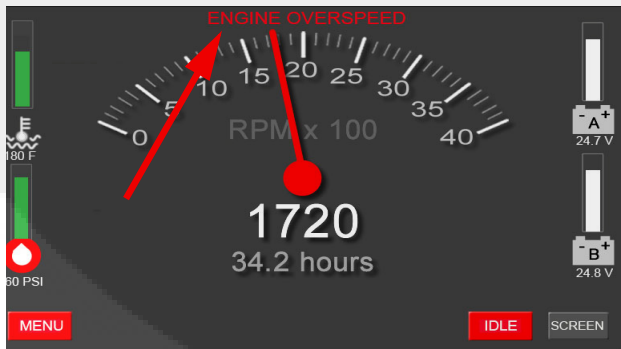

Figure 4-4 Overspeed Test Timer Expired (Sample)
5. When the timer expires (shown in Figure 4-3), “ENGINE OVERSPEED” written in red will flash at the top of the FPDP screen (shown in Figure 4-4).